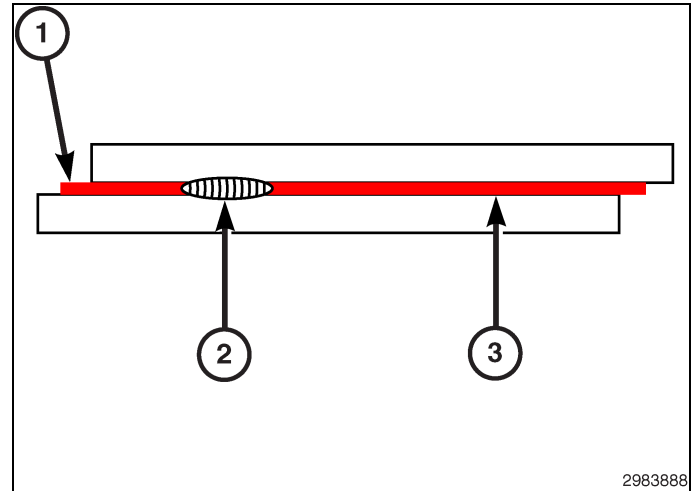

Fig. 12 Current Level Low for Both Welds
9. Destructively test the **second** weld to determine the size of the resistance spot weld produced (see examples in (Fig. 12) If the weld is insufficient, adjust the welder per the welder manufacturer recommendations and repeat steps 7,8 and 9 until the proper weld size is achieved.